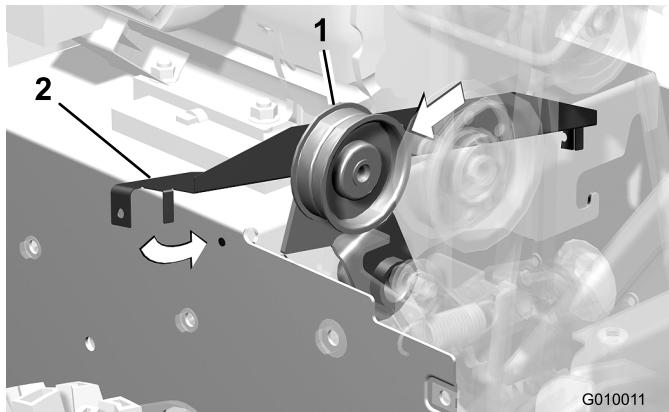

Figure 2
2. Pull the traction idler pulley toward the side of the frame, and slide the drive shield into place, with the mounting tabs on the outside of the frame and the position tabs on the drive shield against the front edge of the frame (Figure 2).